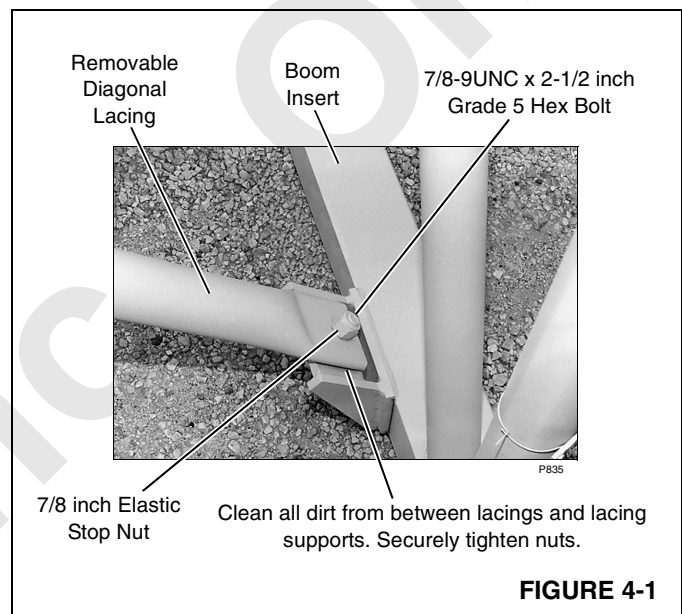

FIGURE 4-1
See Figure 4-1 for following procedure.
2. Check that removable diagonal lacings are securely fastened to each jib insert (see Figure 4-1).